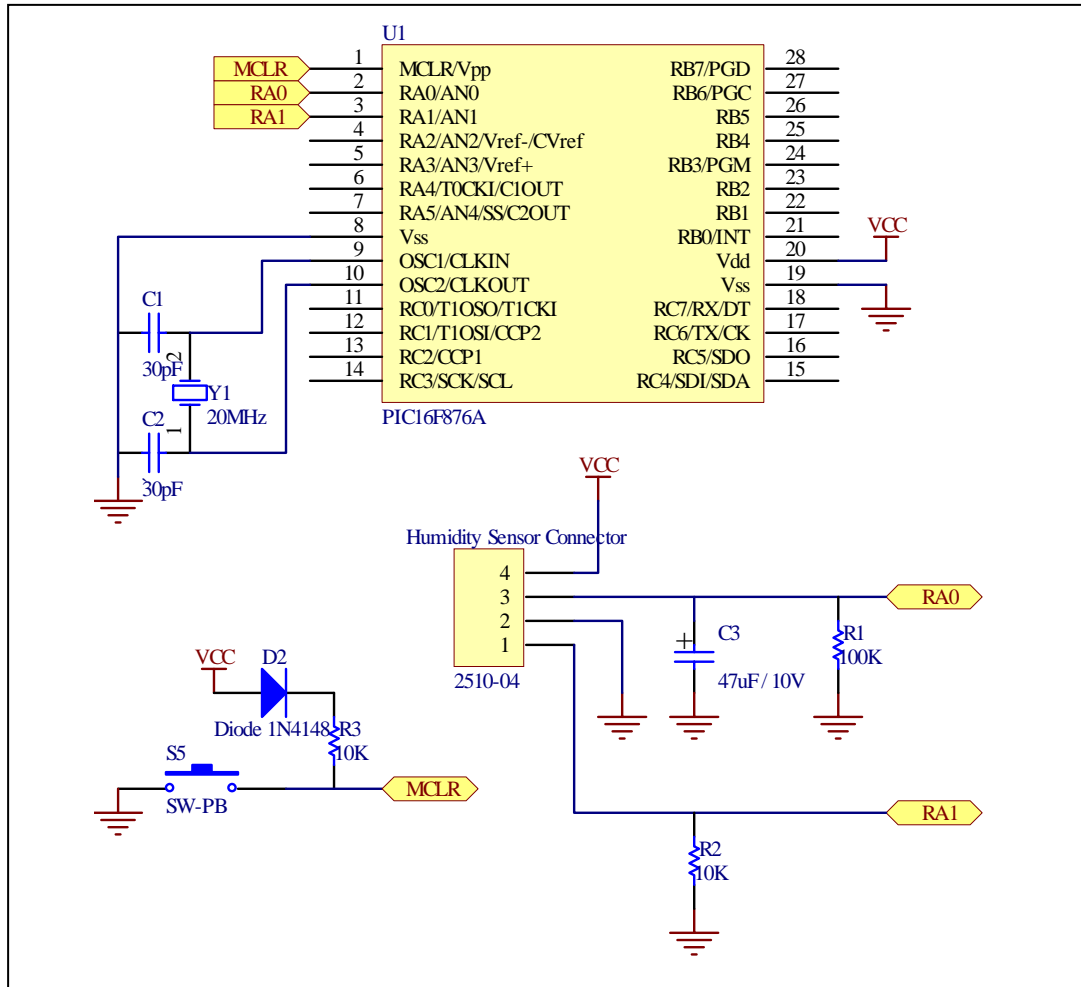

Figure 4.4
Figure 4.4 shows the connection of humidity sensor to PIC microcontroller, which is PIC16F876A. The voltage supply (VCC) of the circuit is 5V. The voltage analog output of humidity (H) is connected to RA0 (AN0) while the voltage analog output of temperature (T) is connected to RA1 (AN1). However, user is free to choose any type of microcontroller, just have to make sure that both of the voltage analog outputs of humidity sensor are connected to the ADC (Analog Digital Convector) pin of that particular microcontroller. For more details of example application, please refer Cytron product, PR15 which can be found in the web site: www.cytron.com.my .